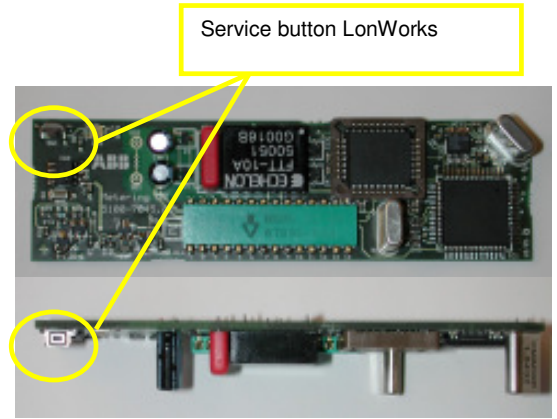

Fig. 2, Service button
8. Press the service button, se fig. 2, on the option board. The configuration tool shall now find the new node and the light-emitting diode "LED1" shall stop twinkle